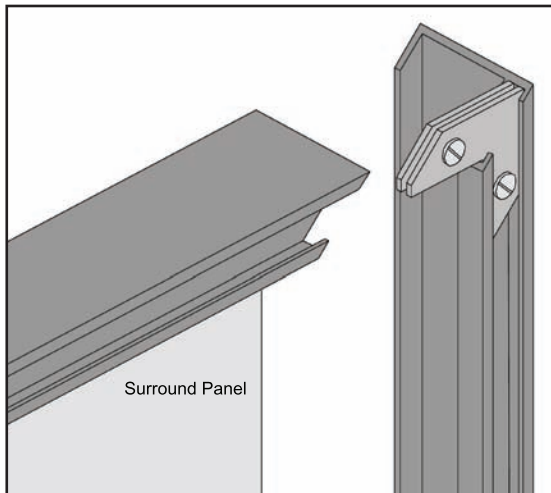
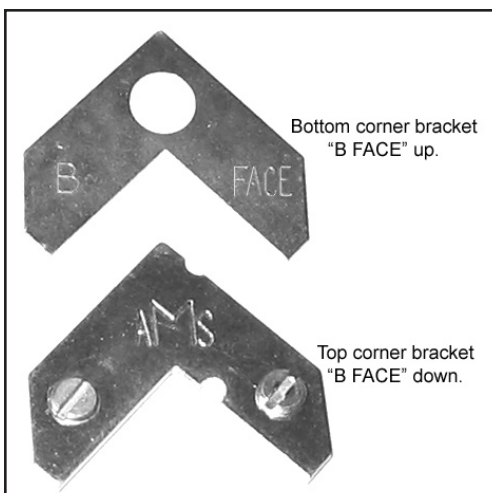
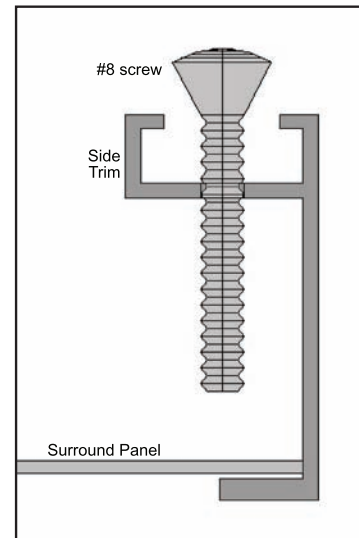

Figure 16: Corner brackets for trim.
Figure 17: Two pieces of corner bracket.
Figure 18: Screw to hold the trim against the surround.
a) Attach one side trim to the top trim using a corner bracket (see Figure 16) to secure pieces together. There are two (2) main pieces to each corner bracket (see Figure 17). When installing the corner pieces into the trim the "B FACE" sides must face each other and the screw heads are to face out. With the bracket in place and the top and a side trim snug together use a flat head screwdriver to turn the two (2) screws in the bracket in to tighten it into the trim.
b) Slide the two (2) attached trim pieces onto the surround panel.
e) On the side trims there are holes 2" (50 mm) from either end. Using a Phillips screwdriver to place a #8 screw 1 1/4" long in each hole and tighten (refer to Figure 18). This will keep the trim tight against the surround.